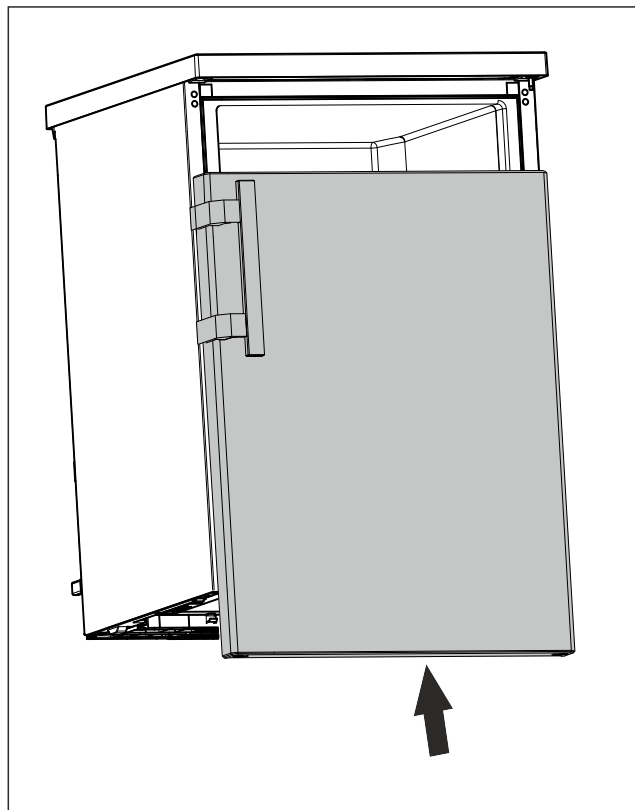

Fig. 19
- ▶ Slide the door onto the upper bolt in closed status. (see Fig. 19)